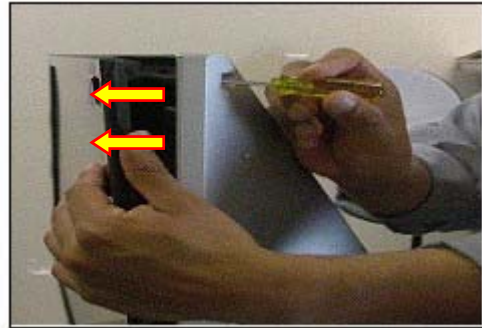

Figure 9
Step 2 – Insert a thin screwdriver into the top left corner vacant screw hole and apply gentle pressure until the mask and screens separate from the rear cabinet assembly. See figure 9.